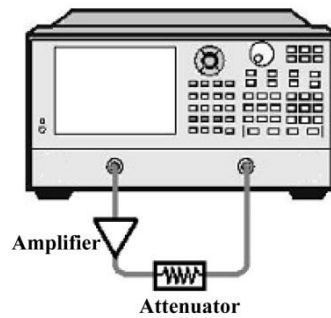

Fig. 8.16 Connection in Group Delay Measurement
- Connect the DUT, as shown in Fig. 8.16.